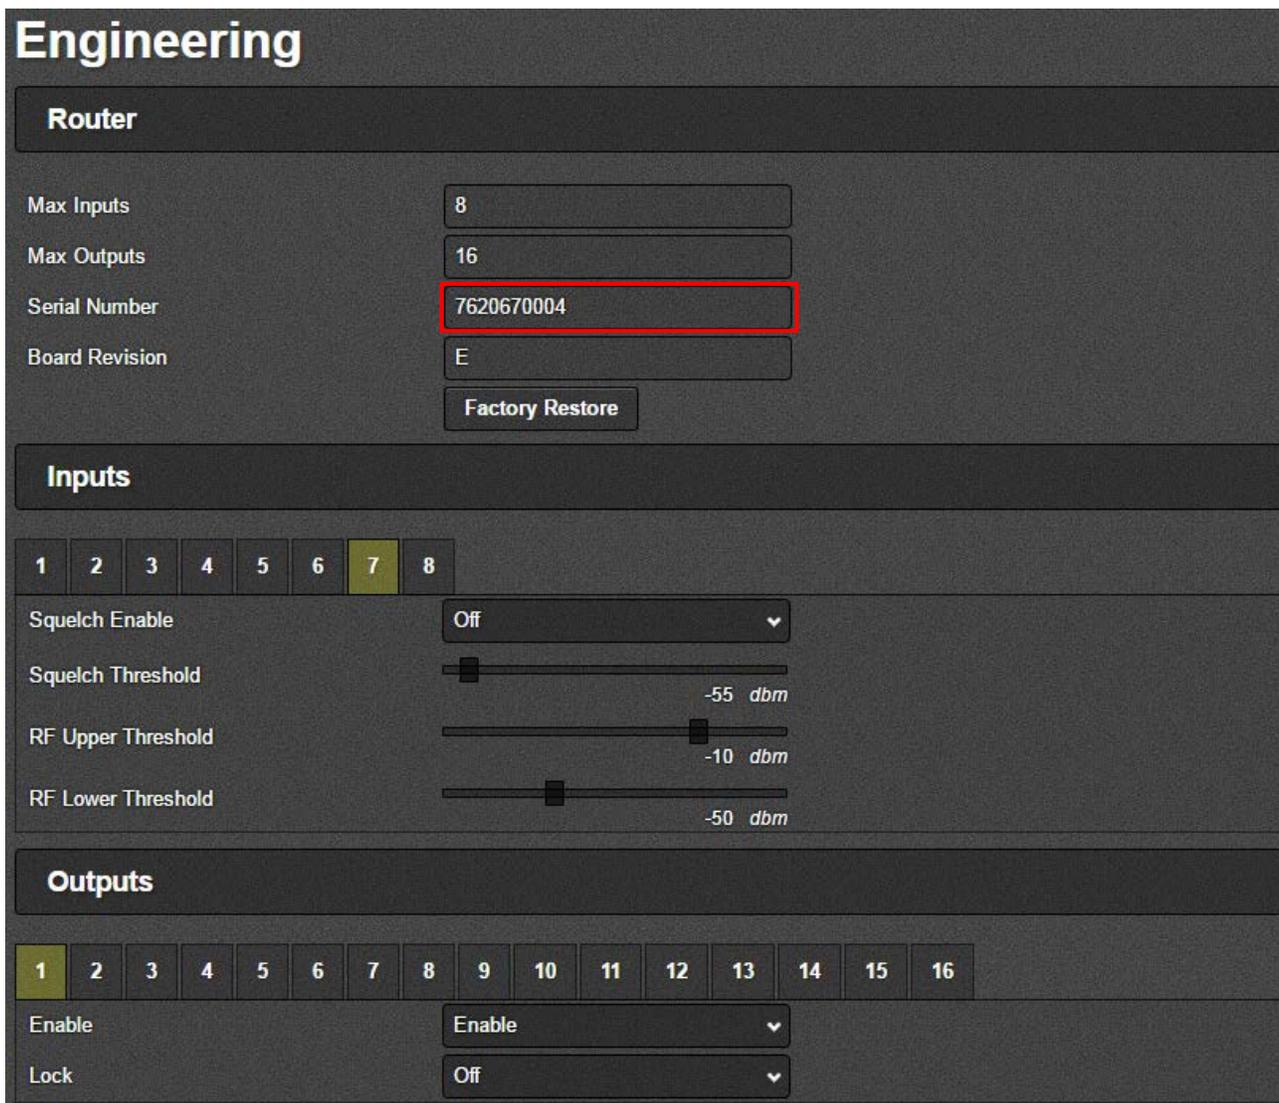

Figure 4-9 : WebEASY® - Engineering Section
- Obtain order/customer specific license by sending the serial number of the module as seen in webpage under engineering menu (Figure 4-9).